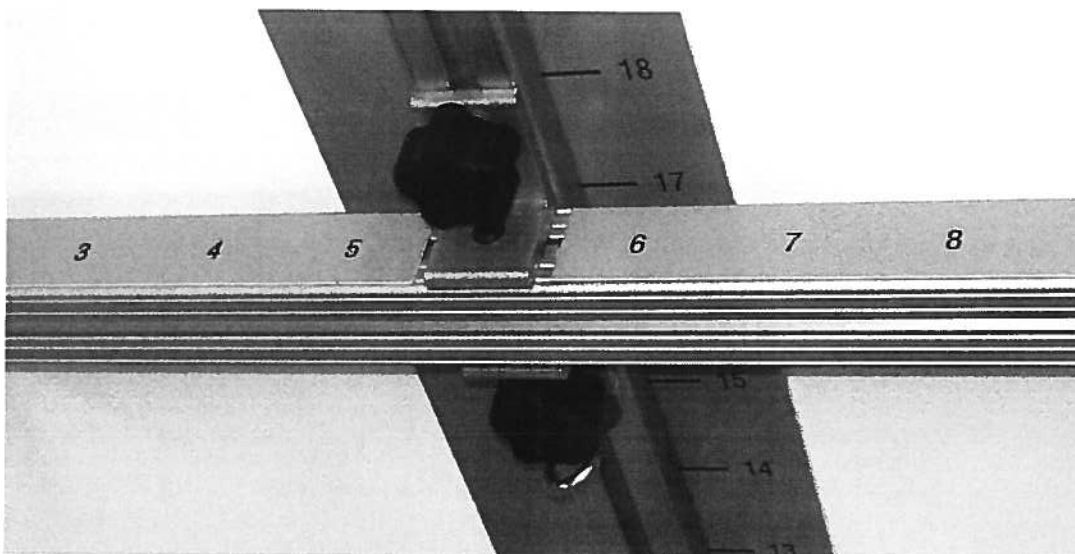

Figure 3 – Horizontal crossbar installed onto mounted lower track.
3. Install horizontal exercise crossbar (wire hooks down, eye bolts out) by carefully sliding the tabs (Fig. 2) into the upper end of the lower t-track. Keep the long ends of the tabs pointing at each other (towards the middle of the horizontal bar). Position the crossbar so that the upper mounting screw is completely accessible to adjustment and final tightening. Tighten knobs (Fig. 3).